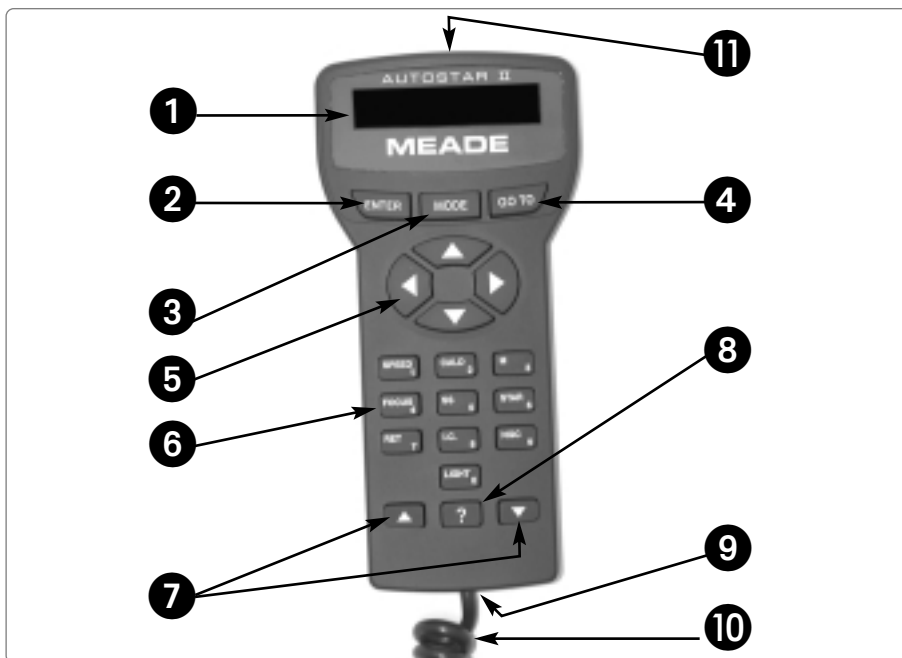

Fig. 2: The Autostar II Handbook.
Note: If MODE is pressed and held for two seconds or more, information about the telescope's status displays. When the status displays, press the Scroll keys (7, Fig. 2) to display the following information:
Additionally, use the Arrow keys to move the cursor across the display: Use the Right or Left Arrow key (5, Fig. 2) to move the cursor from one number to the next in the display.
- 1 **SPEED:** Changes the slew speeds. To operate, press Speed and then a Number key (1 is the slowest speed, 9 is highest speed).
- 9 Coil Cord Port:** Plug one end of the Autostar II coil cord (**10, Fig. 2**) into this port located at the bottom of the Autostar II handbox.